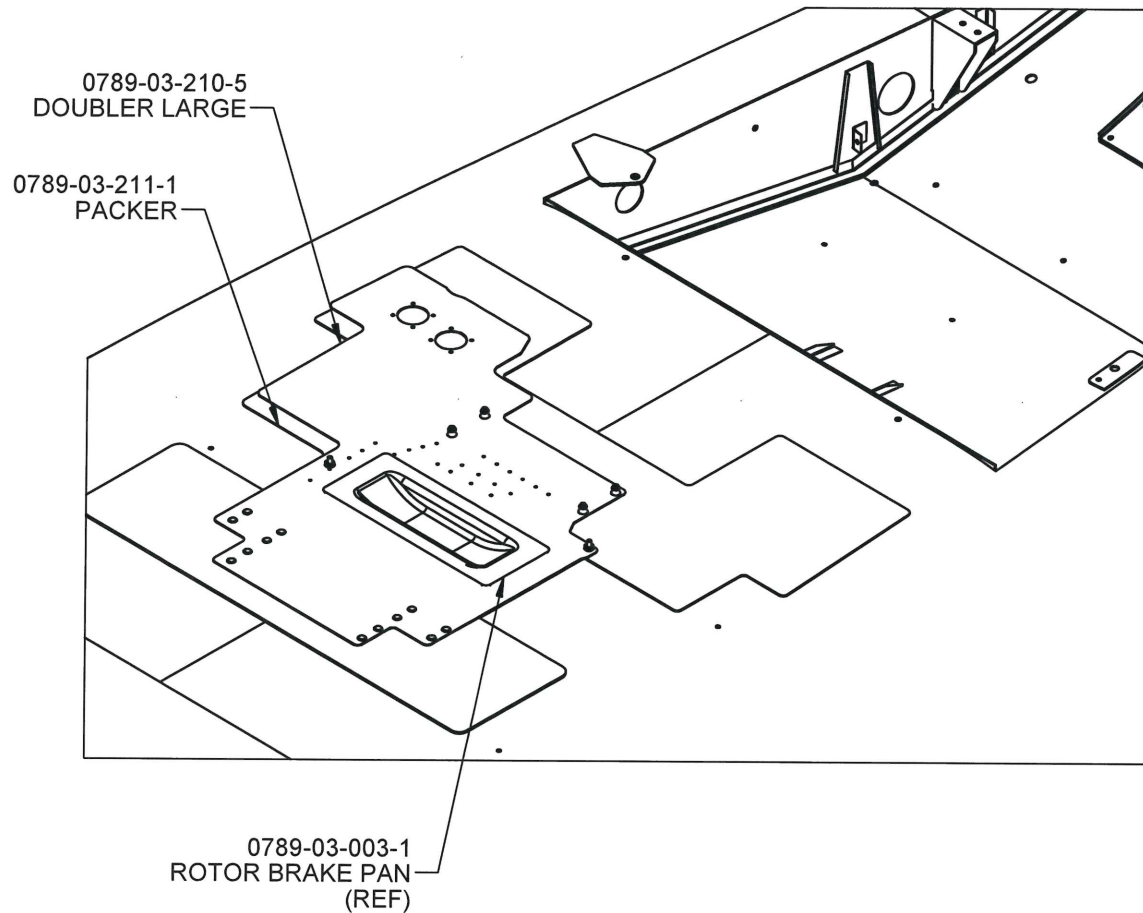
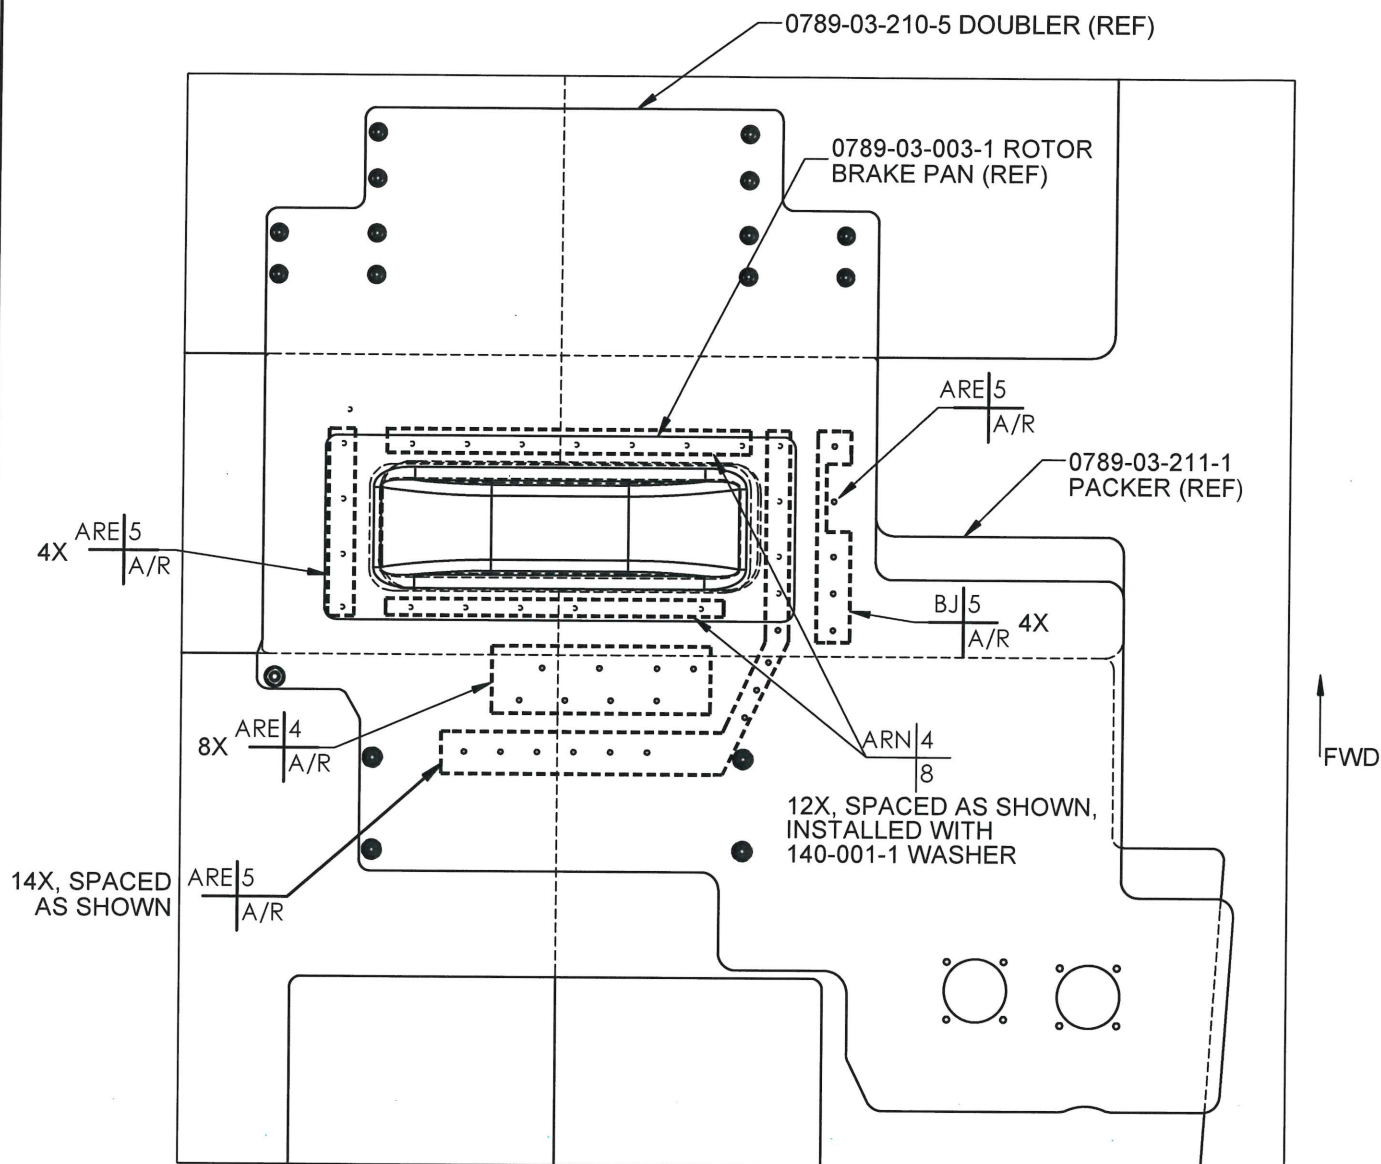

Figure 6 - Doubler Installation
Figure 7 - Doubler Installation
3. Transfer drill 0789-03-210-5 Doubler Large, 0789-03-211-1 Packer and 0789-03-003-1 Rotor Brake Pan, in place of p/n 0789-03-001-1 Doubler Large, p/n 0789-03-002-1 and p/n 0789-03-005-1 Packer per 0789-01-101 Doubler Installation Brake Disk, 0789-01-102 Doubler Installation and TB 407-13-104. Maintain ED > 2 on all fasteners. Refer to Figure 6 and Figure 7.
8. Install all rivets while adhesive is still wet in previous transfer drilled holes per existing fastener locations, installation drawing 0789-01-101 Doubler Installation and TB 407-13-104. Refer to Figure 6 and Figure 7.